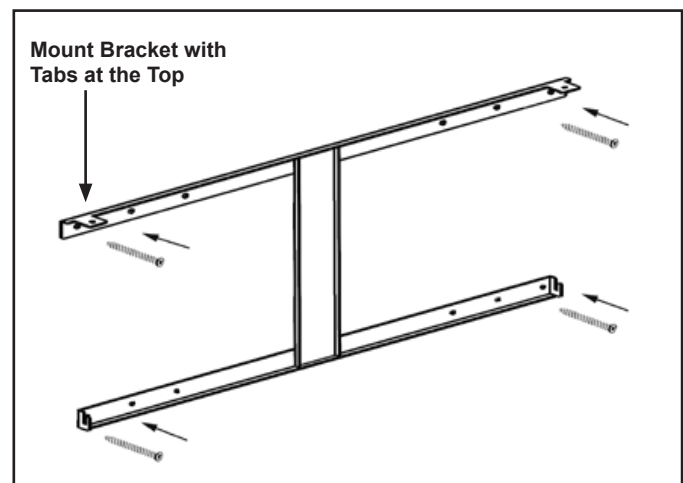

Figure 4.3 Bracket Attachment
- Orientate the bracket so that its mounting hooks are on the bottom and the bracket tabs are on the top. See Figure 4.3 and 4.7.
- At the points where a wood or metal framing member exists, the 5 x 40 screw can be installed directly into that structural member. See Figure 4.3.